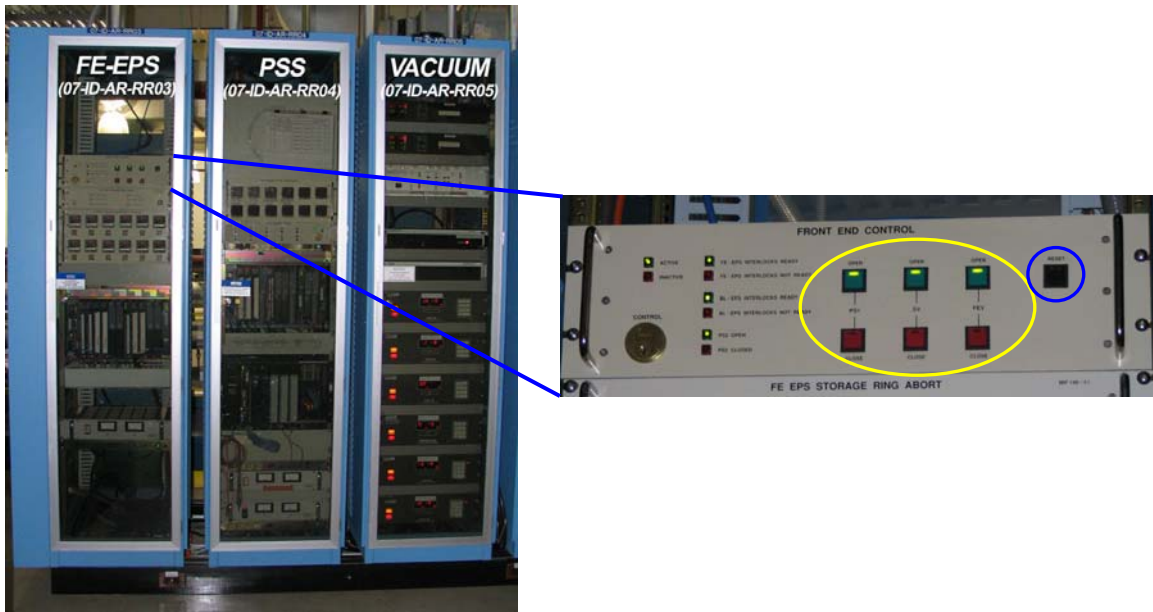

Figure 5: FEEPS cabinets and Front End Control chassis
12. Occasionally, it will not be possible to reset the FEEPS via EPICS due to computer communication problems. It may still be possible to reset the FEEPS from the associated chassis on the storage ring mezzanine (Figure 5). After performing the vacuum checks outlined in steps 8-10 (if required):
- Press the “Reset” button (Figure 5, circled in blue).
- Open the FEV and BIV (Figure 5, circled in yellow).